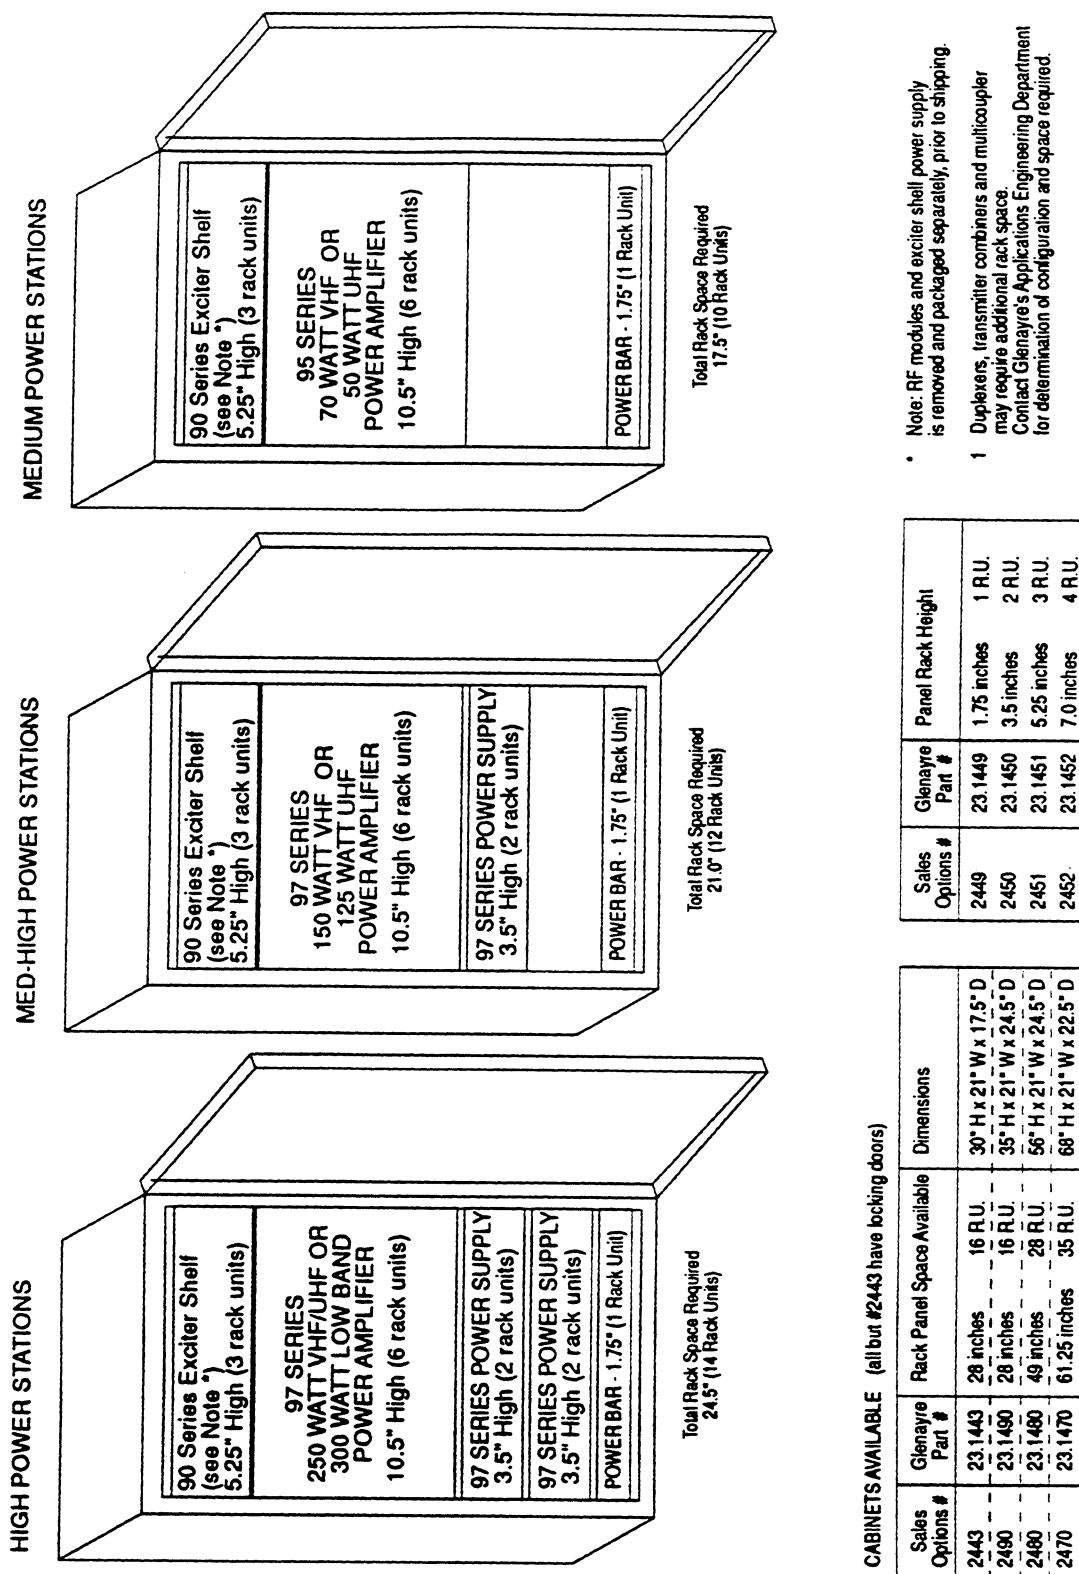

Figure 5-1 : 90/95/97 Series Radio Equipment Suggested Equipment Mounting
Figure 5-1 details installation data for the optional indoor 19-inch rack mounting cabinets. This is an upright style cabinet with provisions in the base for bolting it down to a concrete floor. All cabinets have an ac power outlet strip with six grounded outlets and a 4.5 metre (15 foot) CSA (UL) approved, three-wire line cord installed in the cabinet's base. Remove the knockouts that best fit your installation needs when routing the ac power cord, antenna cable, and other wiring.